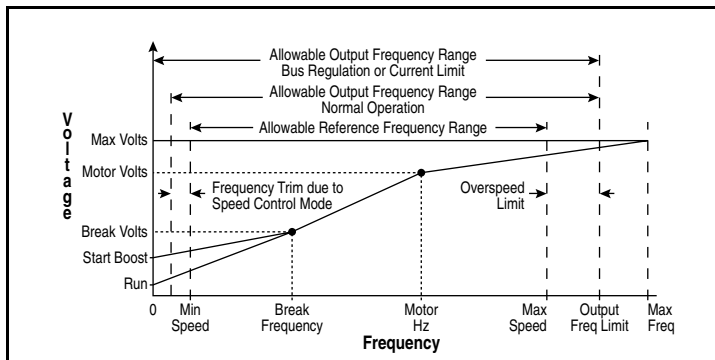

Figure 11.7 – Speed Limits
**ATTENTION:** The user is responsible for ensuring that driven machinery, all drive-train mechanisms, and application material are capable of safe operation at the maximum operating speed of the drive. Overspeed detection in the drive determines when the drive shuts down. See figure 11.7. Failure to observe this precaution could result in bodily injury.
Sets the incremental amount of the output frequency (above Maximum Speed) allowable for functions such as slip compensation. See figure 11.7.